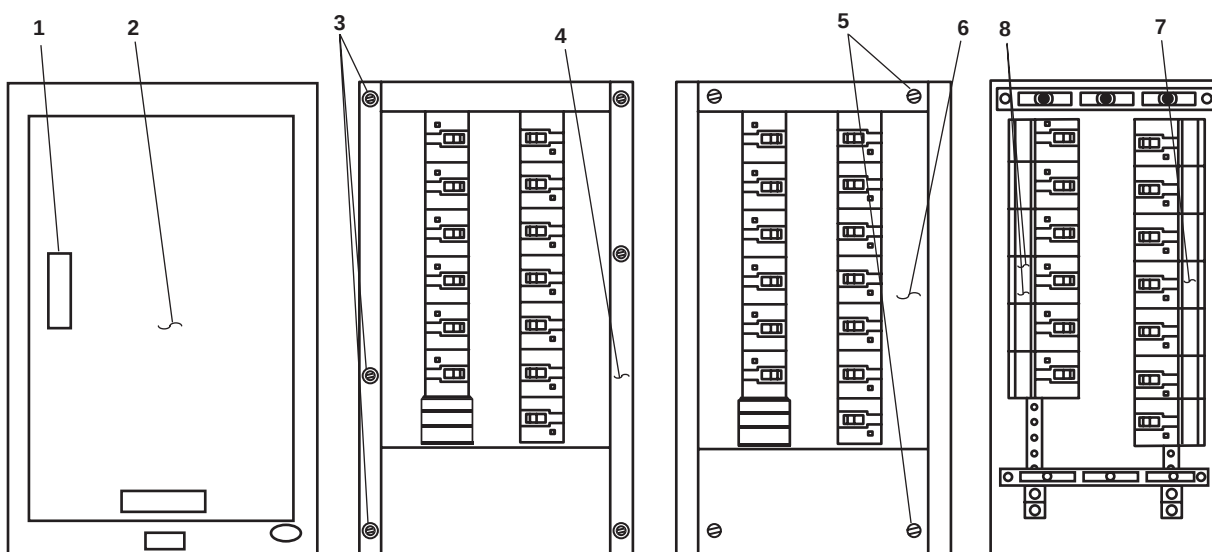

Figure 1. Power Panel
1. Press the key latch (figure 1, item 1) and open the door (figure 1, item 2).
2. Loosen the screws (figure 1, item 3) and remove the face panel (figure 1, item 4).
3. Remove the screws (figure 1, item 5) from the inner panel (figure 1, item 6). Remove the inner panel.
4. Use a multimeter to check for voltage at the circuit breaker(s) (figure 1, item 7). If voltage is present, ensure that the correct circuit breaker(s) is (are) set to OFF, locked out, and tagged out (FM 55-502). If no voltage is present, continue with the procedure.
5. Remove the screws (figure 1, item 8) and remove the applicable circuit breaker (figure 1, item 7).
1. Install the circuit breaker (figure 1, item 7) and secure it with the screws (figure 1, item 8).
2. Install the inner panel (figure 1, item 6) and secure it with the screws (figure 1, item 5).
3. Install the face panel (figure 1, item 4) and secure it with the screws (figure 1, item 3).